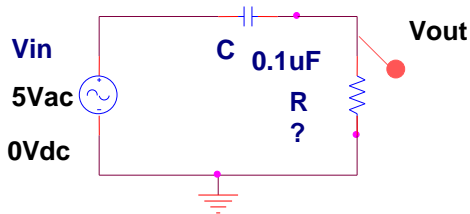
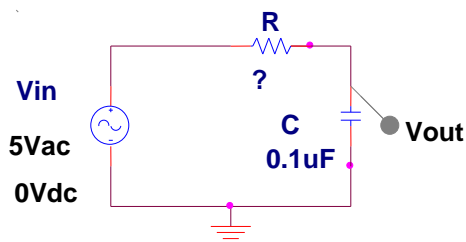

Fig. 1
Fig. 2
- Design a high pass filter (Fig. 1) which has a break point $f_b = 1$ kHz at 3dB below the midband level (the -3dB point). Uses a $C = 0.1\mu\text{F}$ capacitor, and calculate the value for R.
- Exchange C with R (Fig. 2) and measure the voltage across C and Vin as you did above. Do the LTspice sweep and change the graph to dB as in 2.
2. Cutoff point Fig 1
3. Cutoff point Fig 2
4. Explain why in Fig. 1 we measured across R, then in Fig. 2 across C, and is a different type of filter?
1. Build the high pass filter designed (Fig. 1) in the Pre-Lab
4. Build the low pass filter designed (Fig. 2) in the Pre-Lab.